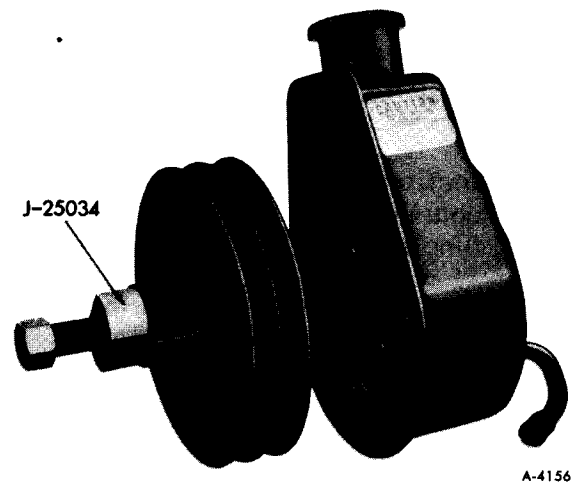

Figure 3—Pulley Removal—Special Tool J-25034
7. Remove pulley from shaft using puller tool J-25034 (figure 3).